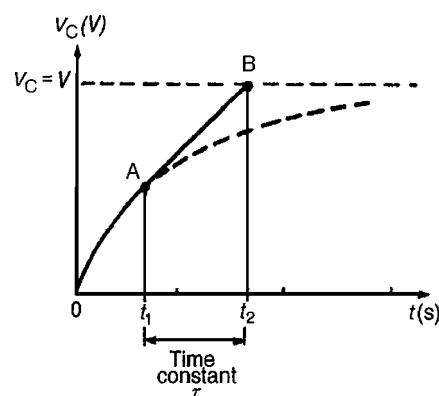

Figure 18.3
- (a) If a constant d.c. voltage is applied to a series connected $C - R$ circuit, a transient curve of capacitor voltage v_C is as shown in Fig. 18.3(a).
- (b) With reference to Fig. 18.3, let the constant voltage supply be replaced by a variable voltage supply at time t_1 seconds. Let the voltage be varied so that the **current** flowing in the circuit is **constant**.